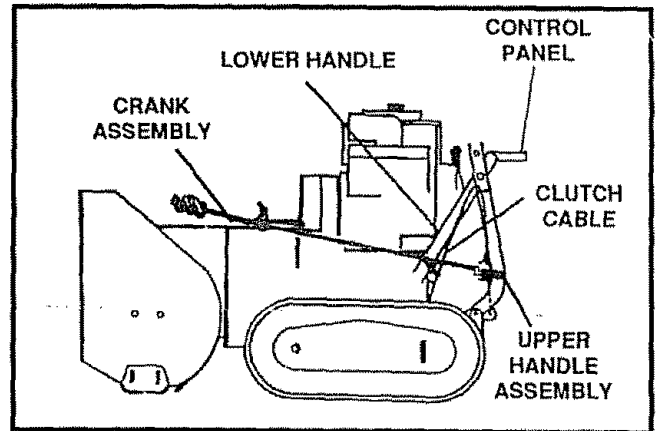
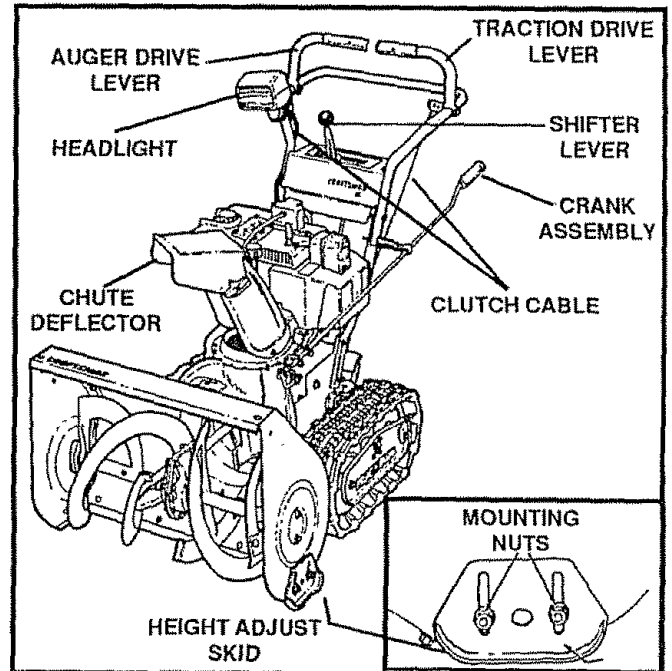

FIG. 1
FIG. 2
Figure 1 shows the snow thrower in the shipping position. Figure 2 shows the snow thrower completely assembled. Reference to the right and left hand side of the snow thrower is from the operator's position at the handle.
## TO REMOVE SNOW THROWER FROM CARTON (See Fig 1)
For shipping, the height adjust skids are reversed. To use your snow thrower, you need to remove the height adjust skids and reinstall as shown in Fig. 2. Then adjust the height adjust skids for surface conditions as follows:
- Loosen the mounting nuts on the skids (See Fig. 2).
- Remove the pivot bolt (Fig. 7A), place headlight in correct position (as shown in Fig. 7B and in Fig. 2) and retighten nut.